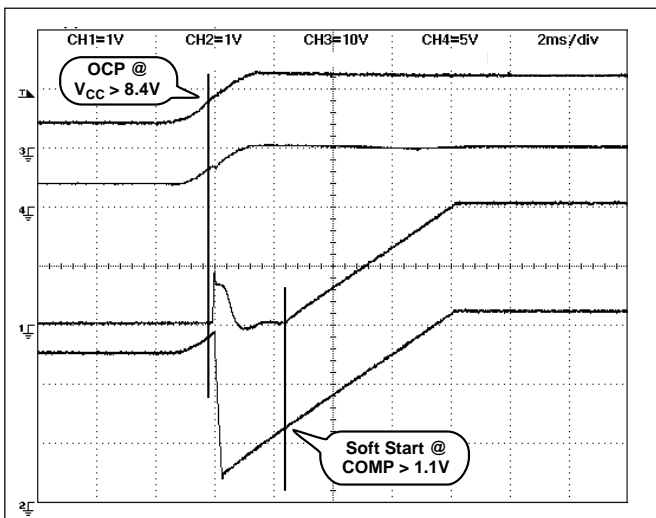

Figure 11: Startup with COMP pre-charged to 2V (2ms/div).
If the voltage across the Current Sense resistor generates a voltage difference between the V_{FB} and V_{OUT} pins that exceeds the OVC Comparator Offset Voltage (86mV typical), the Fault latch is set. This causes the COMP pin to be quickly discharged, turning off GATE(H) and the upper NFET since the voltage on the COMP pin is now less than the 1.1V PWM comparator offset. The Fault latch is reset when the voltage on the COMP decreases below the Discharge threshold voltage (0.25V typical). The COMP capacitor will again begin to charge, and when it exceeds the 1.1V PWM comparator offset, the regulator output will Soft Start normally (see Figure 11).